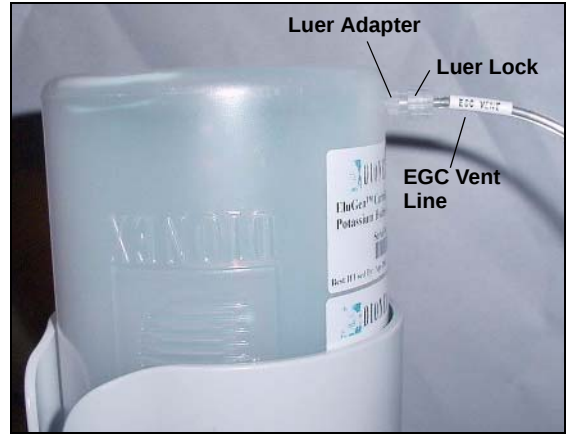

Figure 5-68. EluGen Cartridge Vent Line and Luer Fitting
4. Remove the **EGC VENT** line (see Figure 5-68) from the EluGen cartridge by unscrewing the luer lock from the luer adapter.